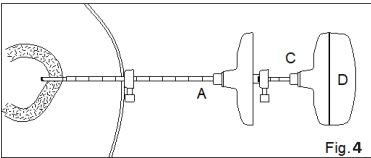

Fig. 4
FIG. 4 Insert the assembled Biopsy Needle and Handle (C+D) through the Access Cannula (A). Carefully rotate the Biopsy Needle and Handle (C+D) clockwise until desired biopsy depth is achieved (or until the depth gauge of the Biopsy Needle (C) reaches the Access Cannula (A) luer end. Then rotate Biopsy Needle and Handle (C+D) counterclockwise and remove. Remove the Handle (D) from the Biopsy Needle (C); insert the Ejector Pin (E) through the Biopsy Needle (C) from the luer end and eject the sample.